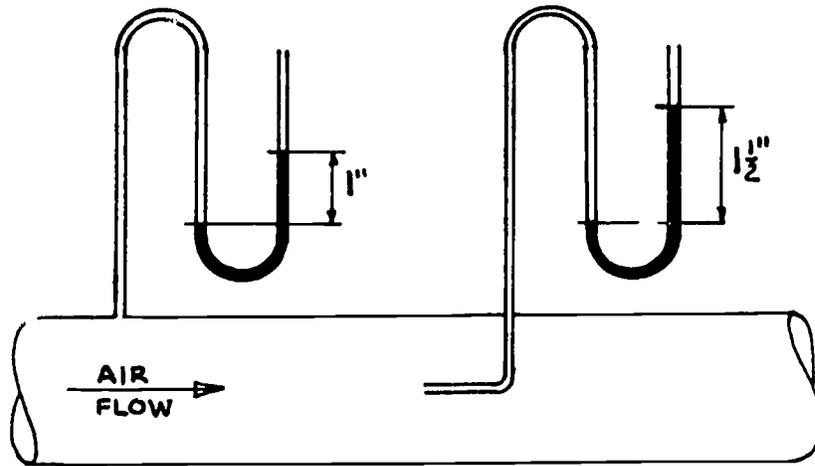

FIG. 3
3. Using the information as indicated in Fig. 3, calculate the velocity of air flowing in duct. The manometers read in inches of water. Consider standard densities for air and water.